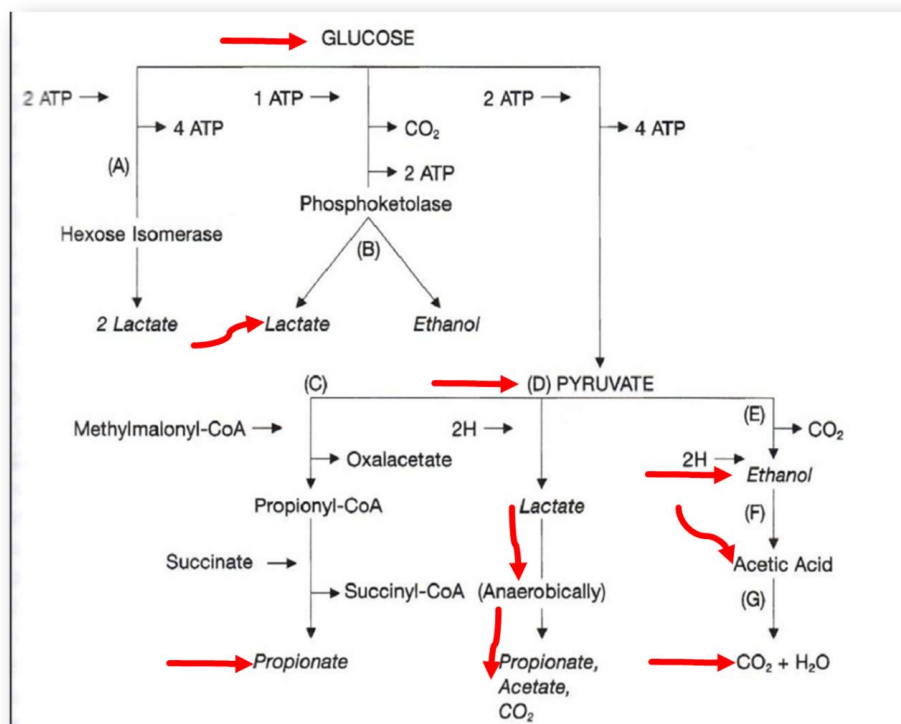

Figure 26 :lactic acid pathway production.
- Depending on the mode of fermentation, there are homofermentative and heterofermentative bacteria (Figure 26).